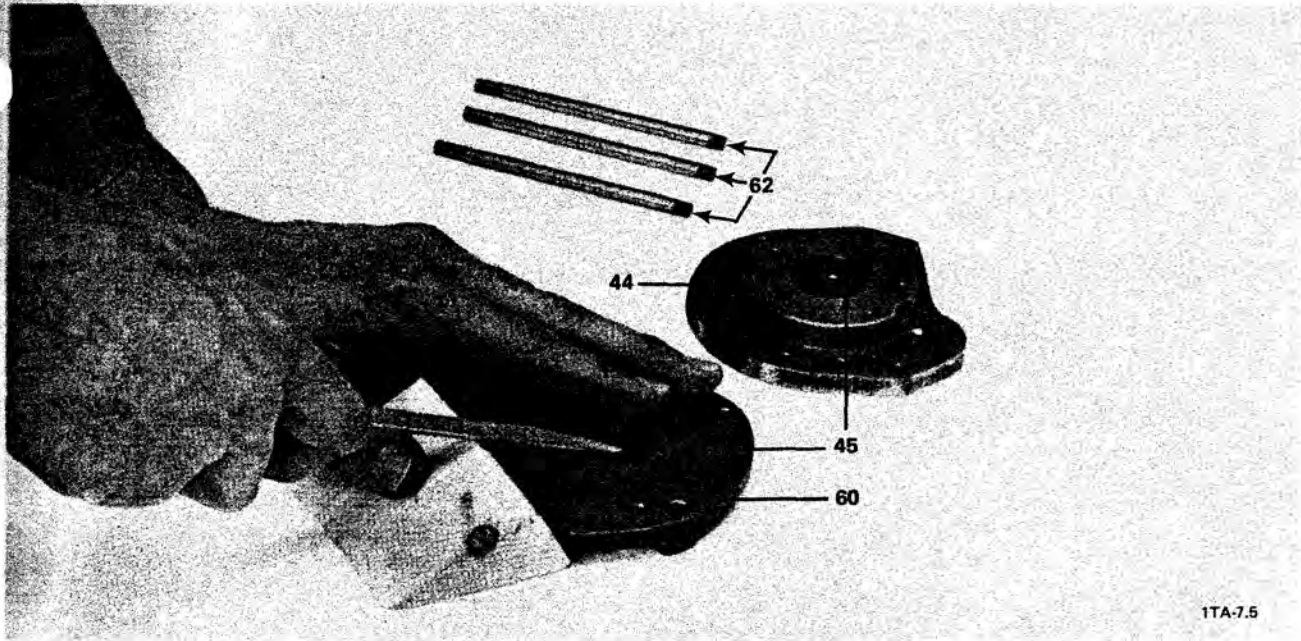

Figure 5-12. Removing the Radial Shaft Seal From the End Plates (D2A Pump Model Shown)
Remove the radial shaft seal (45) from the rear end plate (60) as follows (see Figure 5-12).
- Using the wooden block as a fulcrum and the screwdriver as a lever, pry the shaft seal (45) out of the end plate.
- D-9 Unscrew and remove the threaded studs (62) from the front end plate (44). (See Figure 5-12.)